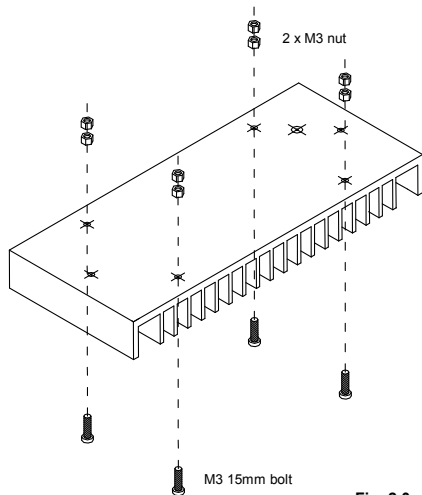

Fig. 2.0
- Mount 4 bolts + 8 nuts (PCB support). (fig.2.0)